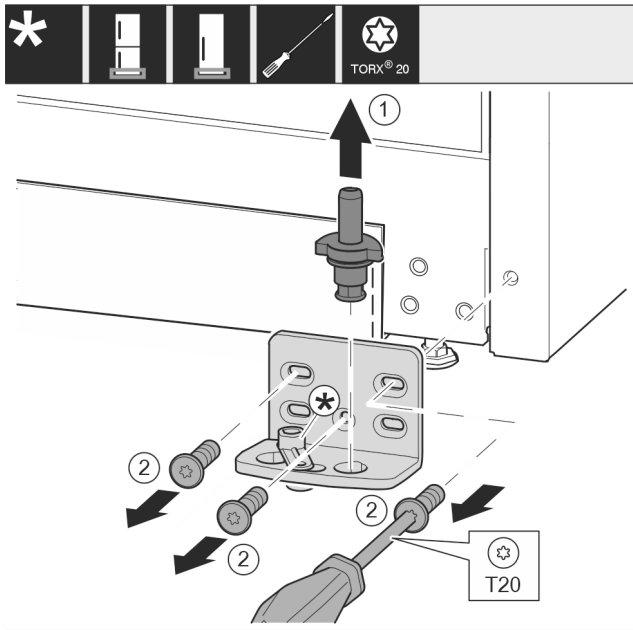

Fig. 25
- Pull the bearing bolt Fig. 25 (1) out upwards completely.
- Use screwdriver to unscrew the screws Fig. 25 (2) and remove the swap bearing block.